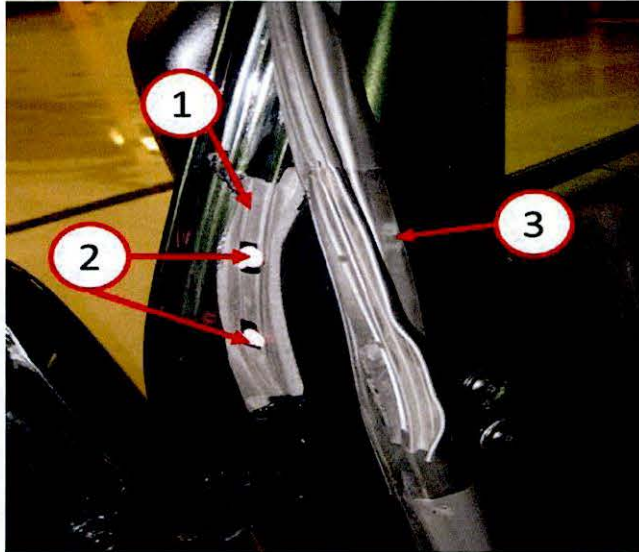

**Fig. 14 Door Stuffer Installation**
- 24. Bond both stuffer sections at the intersection (1) with Mopar Bond All Gel (2) and make sure there is no gap between stuffer sections as shown in (Fig. 14).